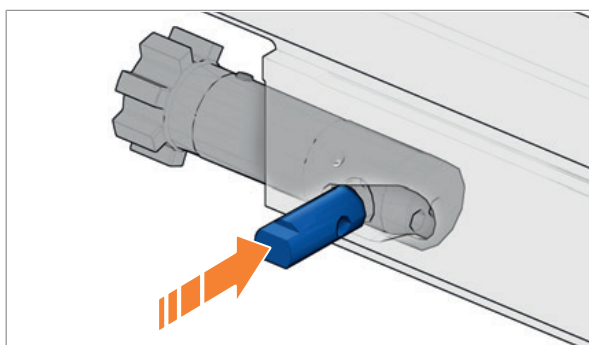

Fig. 121: Insert control bolt
2. Insert control bolt into bolt head carrier with the bore in the longitudinal direction (*Fig. 121*).